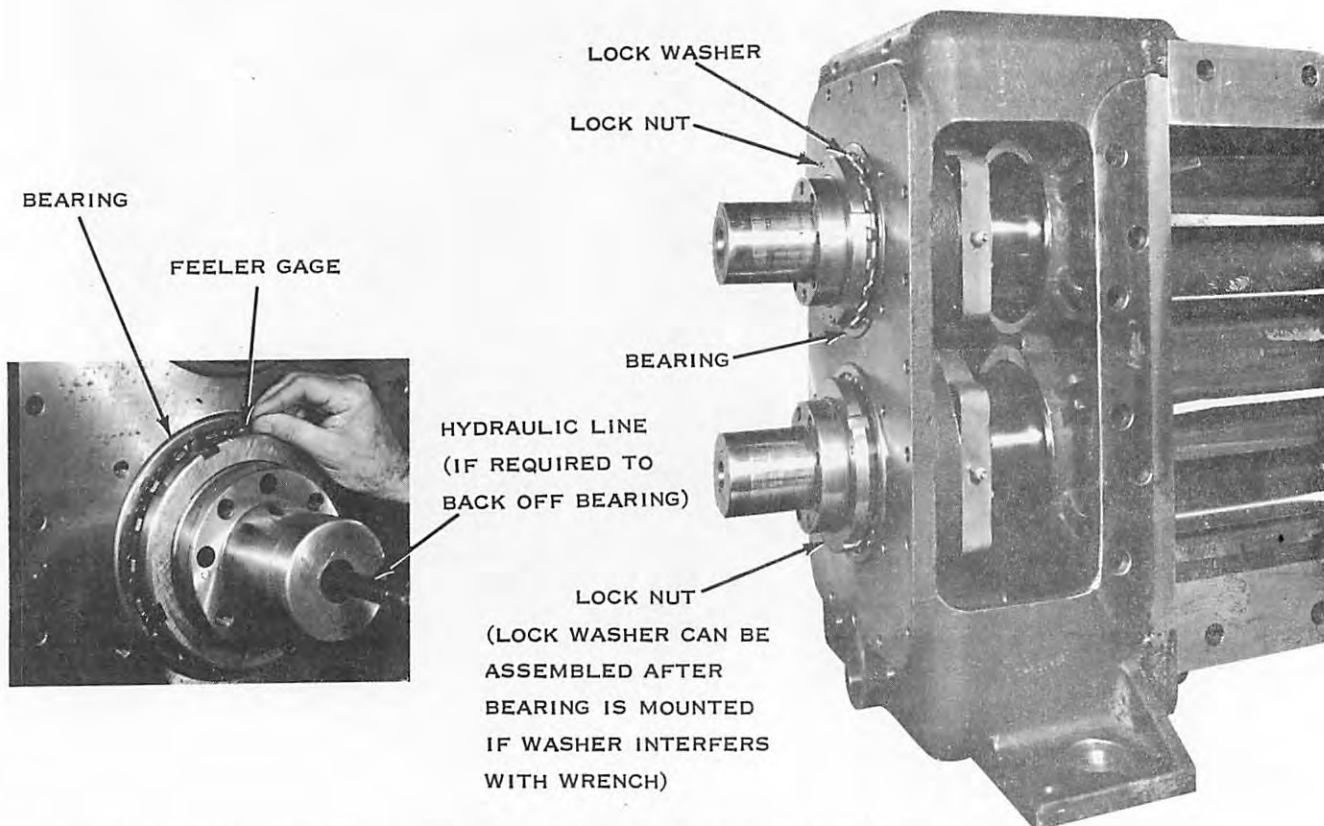

FIGURE 11. MEASURING BEARING DIAMETRAL CLEARANCE
8. AFTER ALL BEARINGS ARE INSTALLED, SET PUMP IN AN UPRIGHT POSITION FOR FINAL BEARING ADJUSTMENTS (SEE FIGURE 11).